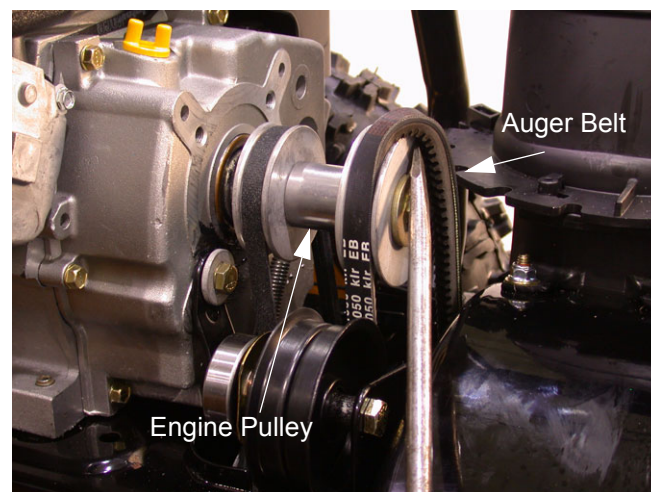

Figure 14
- 8.2. Roll the auger belt off the engine pulley. See Figure 14.